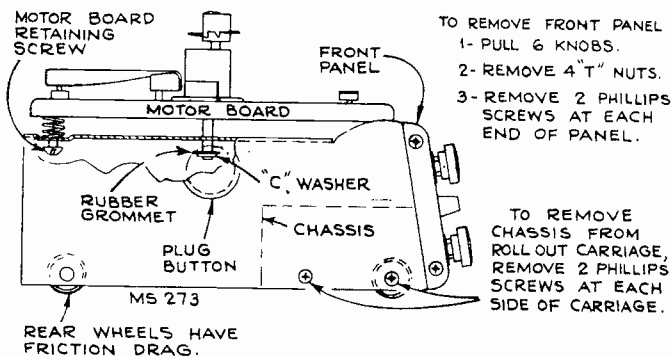

Fig. 25
1. Remove plug buttons on side of "Roll-out" (Fig. 25).
2. Remove "C" washer on record player (Fig. 25).
1. Remove plug buttons and "C" washer (Fig. 25).
2. Pull six control knobs (Fig. 25).
3. Remove four "T" nuts (Fig. 25) (Do not break fiber washers).
4. Remove two cross-recess head screws at each end of panel (Fig. 25).
5. Remove two cross-recess head screws at each end of carriage (Fig. 25).